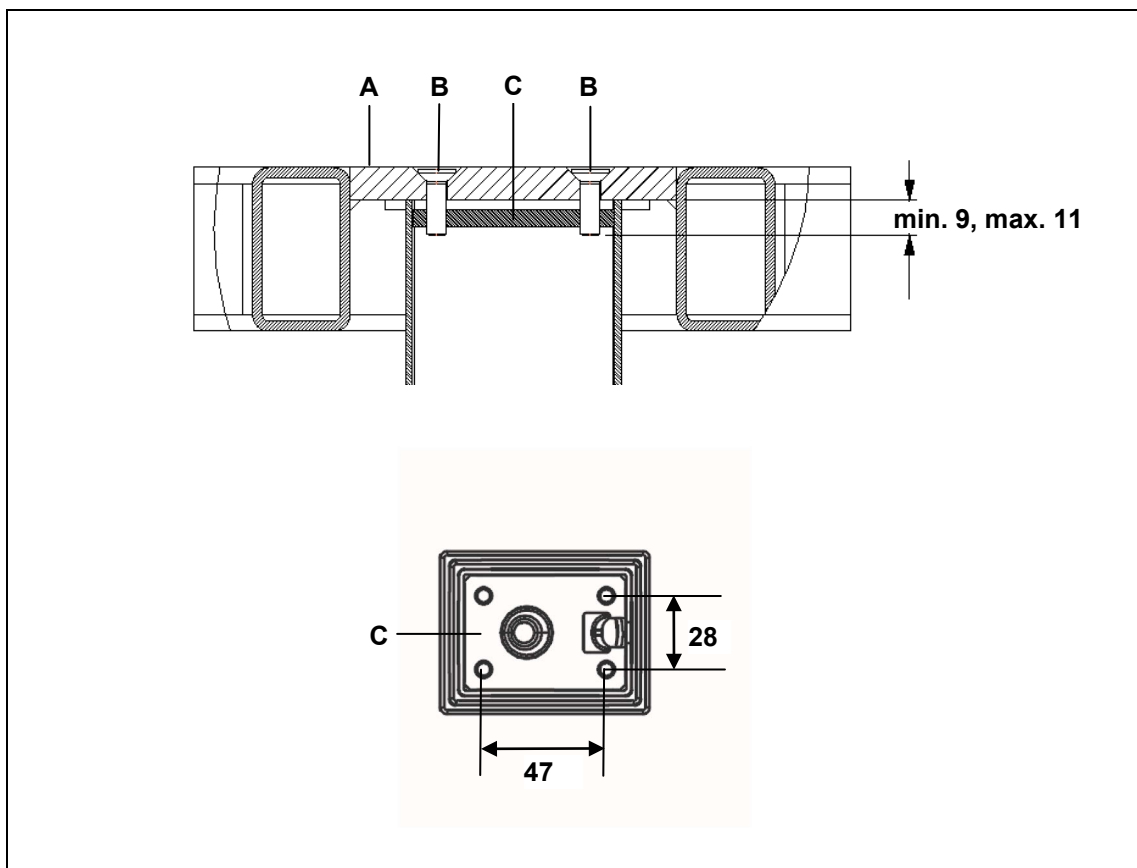
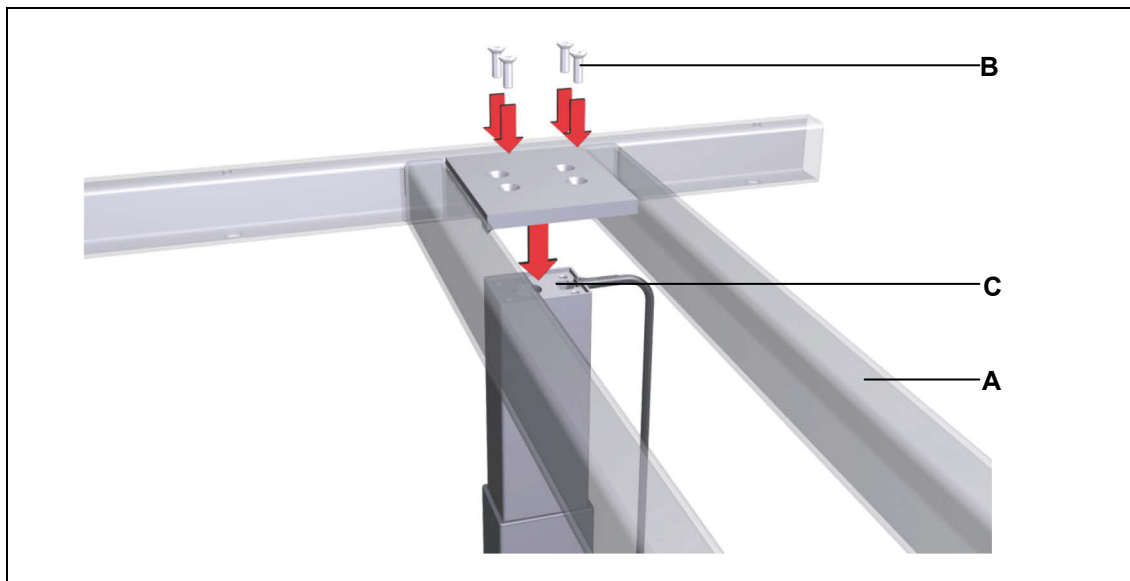

Figure 8 Mounting the table frame (dimensions in mm)
Figure 9 Mounting table top
- ▶ Use M6 screws (grade 8.8) of suitable length so that the depth is at least 9 mm and a maximum of 11 mm, as shown in Figure 8 (screw length = thickness of the mounting plate + min. 9 to max. 11 mm). The tightening torque must not exceed 10 Nm.
- 1 Set the table frame so that the holes are over the lifting column. Use four screws to attach the table frame to the head end of the ID21 lifting column, as shown in Figure 9 (maximum tightening torque is 10 Nm). The mounting dimensions are shown in Figure 8.